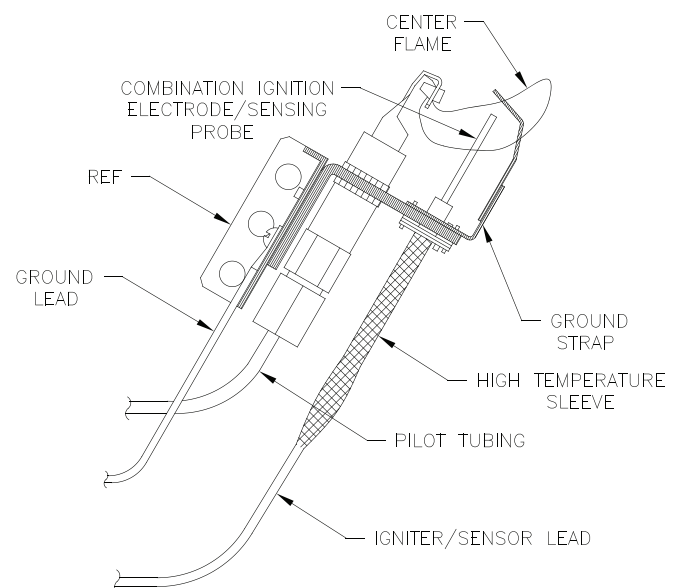

Figure 12: Pilot Burner Flame
1. See Figure 12. The pilot burner should be lit only if thermostat is calling for heat. The pilot burner produces three (3) flames. The center flame should be steady, medium hard blue enveloping 3/8 to 1/2 inch of thermocouple.